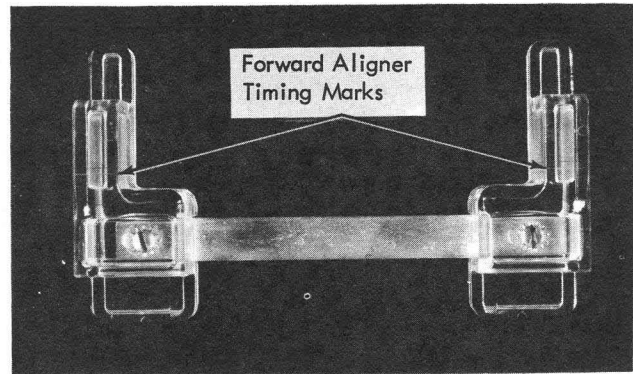
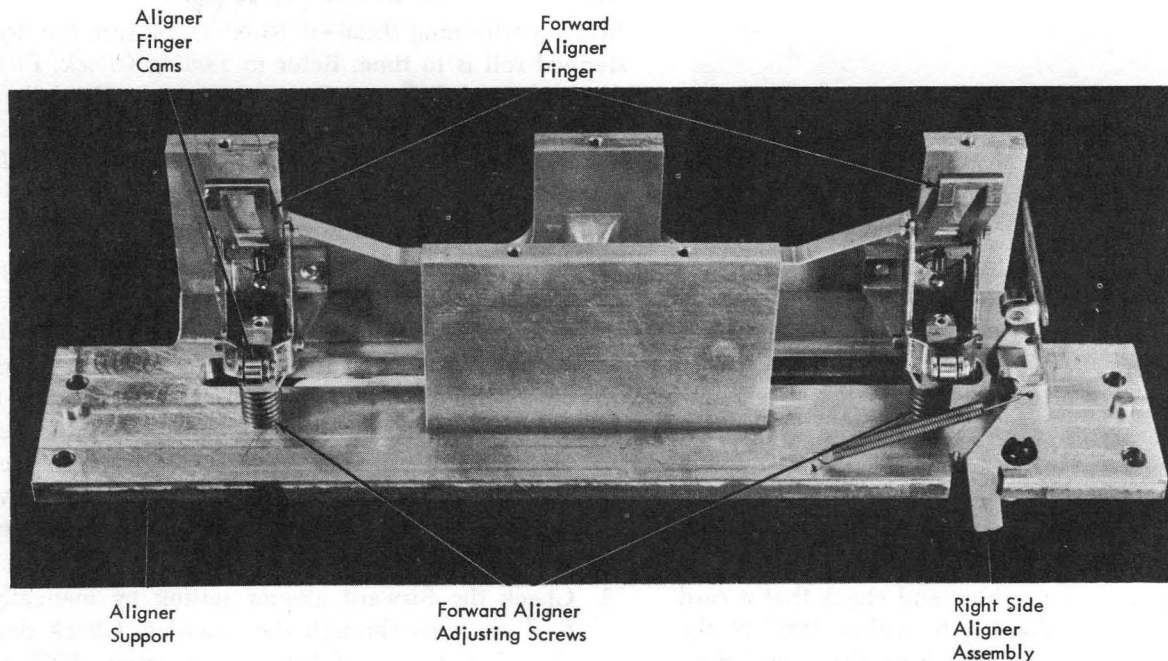

Figure 3-60. Timing Mark Gage
Figure 3-61. Forward Aligner Assembly
4. Continue turning machine and check that a card finishes forward aligning to within .005" of the forward aligner timing mark on the gage before 351° (Figure 3-60). The trailing edge of the card must travel at least 1/32 inch past the feeding
2. Adjust forward aligners so that the trailing edge of the card is against each aligning surface of the forward aligners, and that the leading edge is within .005" of the forward aligner timing mark on the timing-mark gage at 351° (Figure 3-60). Turn the adjusting screw of the forward aligner clockwise in order to move the forward aligner away from the hopper. Turn the adjusting screw counter-clockwise to move the forward aligner toward the hopper (Figure 3-61).